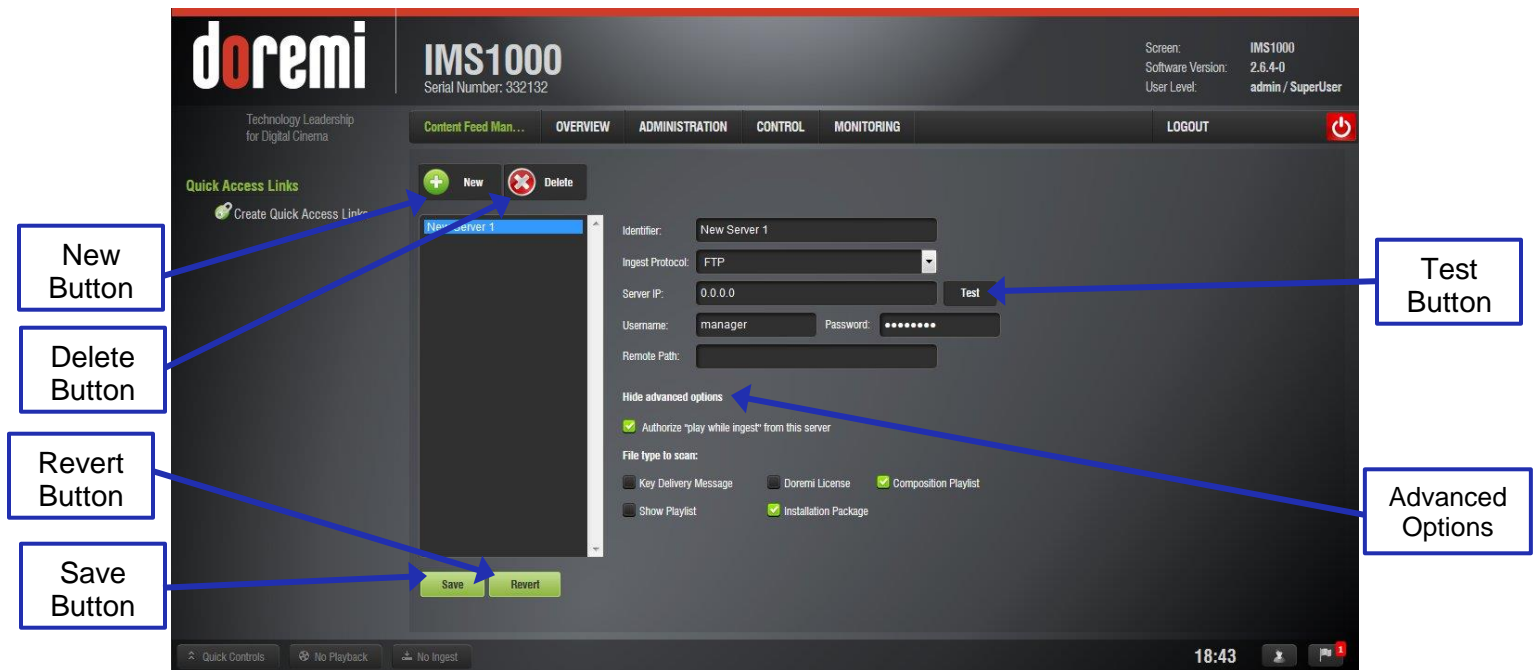

Figure 160: Add New Server
- Click the Save button to save the configuration. The server is now added to the Content Feed Manager network (Figure 160).
- Click the New button to add a new server. The following fields will appear (Figure 160):
- Optional: Click the Test button to test the IP connection (Figure 160). A pop-up window will appear that will test the connection. Click the Close button to exit this window.
- Click the Save button to save your changes. Clicking the Revert button before saving will cause the user to lose all of the changes (Figure 160).
Clicking the Advanced Options button will open a drop-down menu where the user can configure the following file types to be used for ingesting (Figure 160):
Click the Save button to save the configuration. The server is now added to the Content Feed Manager network (Figure 160).
- Delete a server from the Content Feed Manager list by selecting it and clicking on the Delete Repository button (Figure 160). This will also remove it from the Ingest Manager drop-down list of servers to ingest from.